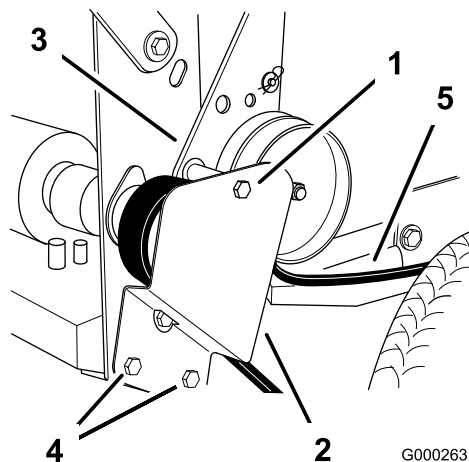

Figure 47
1. Remove the top capscrew securing idler support and idler bracket to rear frame (Figure 47).
2. Loosen bottom two mounting screws enough to allow belt to pass between drive pulley and idler support (Figure 47).
5. Install the top capscrew securing the idler support and idler bracket to the rear frame (Figure 47).
6. Tighten the bottom two mounting screws enough to allow the belt to pass between the drive pulley and idler support (Figure 47).